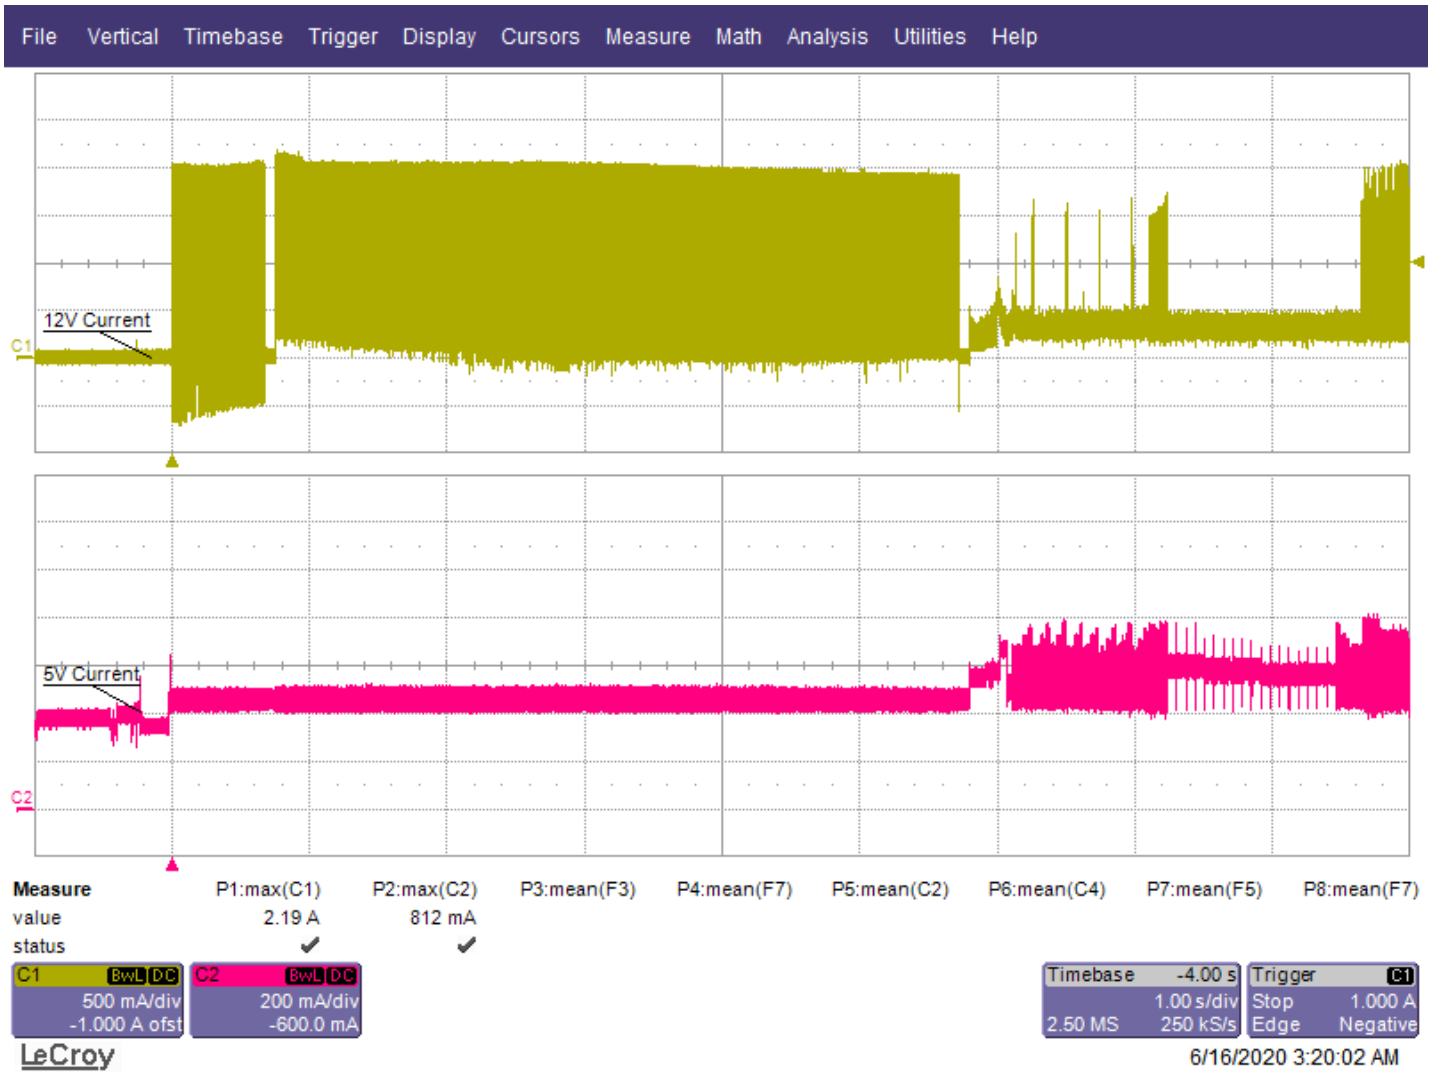

Figure 1. 18TB and 16TB model current profiles.
- [3] See +12V current profile in Figure 1.